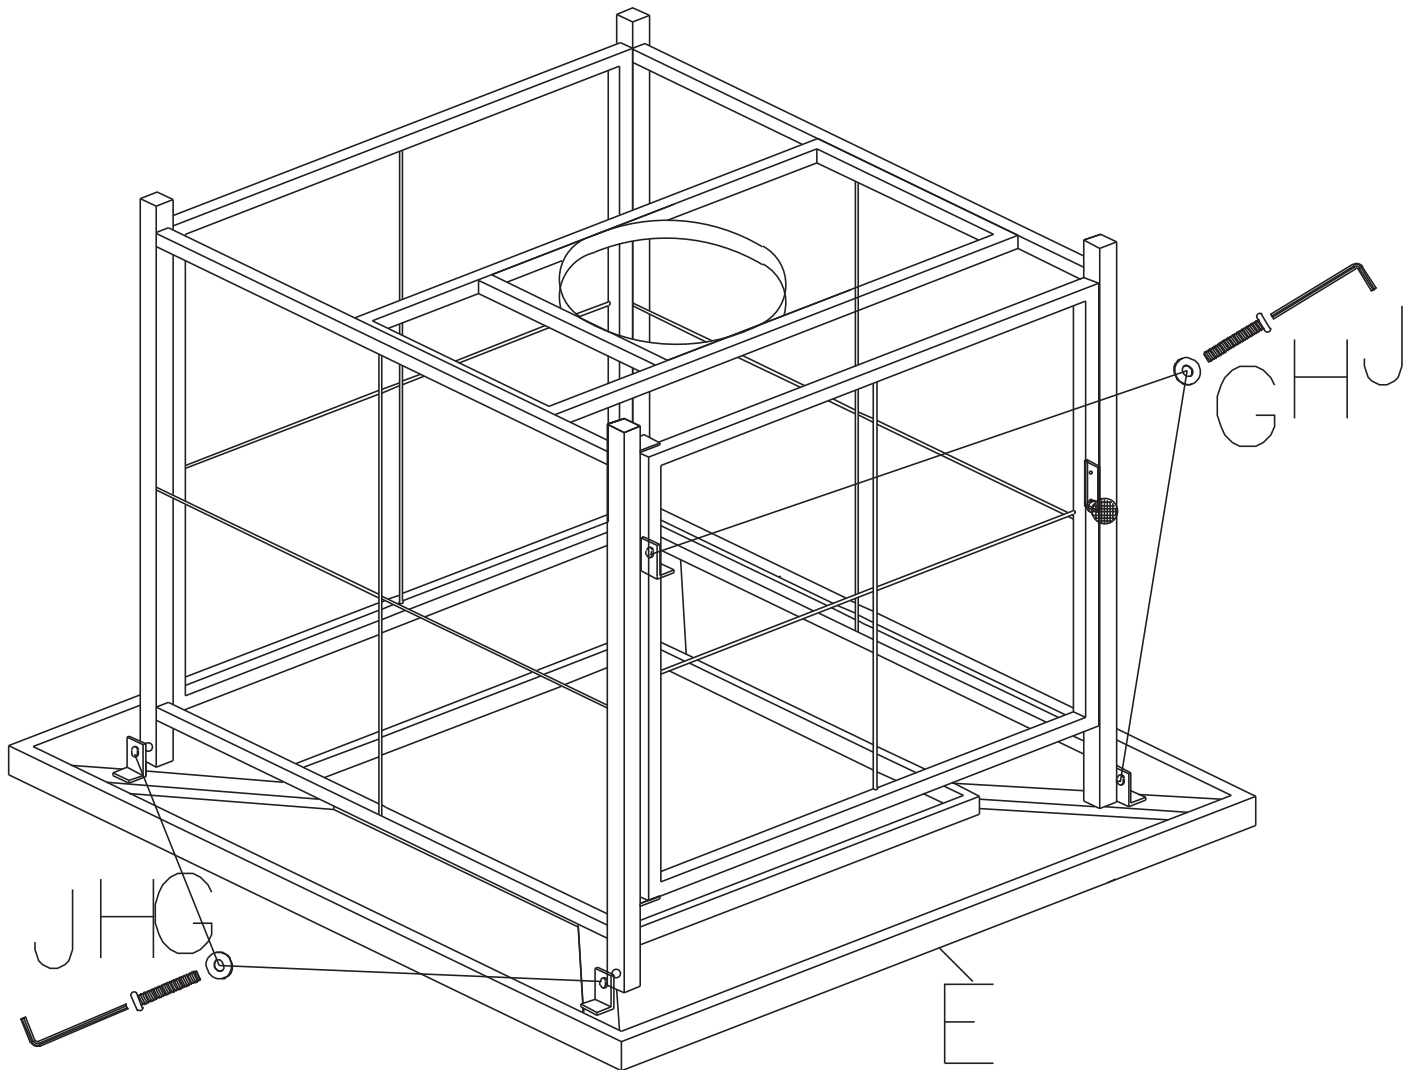

Figure 6
STEP 4: Keep the table top upside down as Figure 6. Attach the table top (E) to side panels by 4 pcs bolts (H) and 4pcs washers (G) by Hex key (J). Verify the alignment and adjust, then fully tighten all the bolts